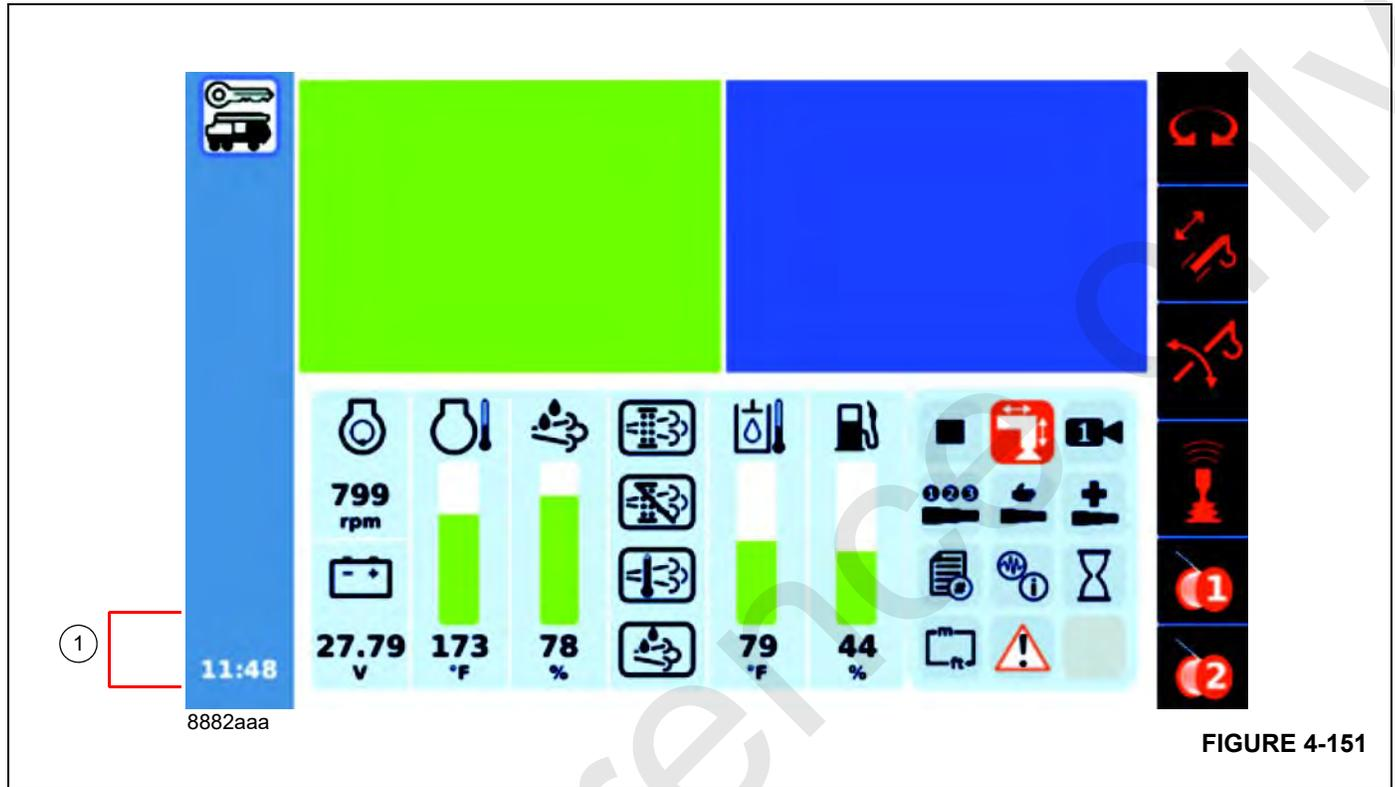

FIGURE 4-151
The following indicator can appear in the Active Screen Indicator Area (1), (Figure 4-151) of the ODM Main Screen: